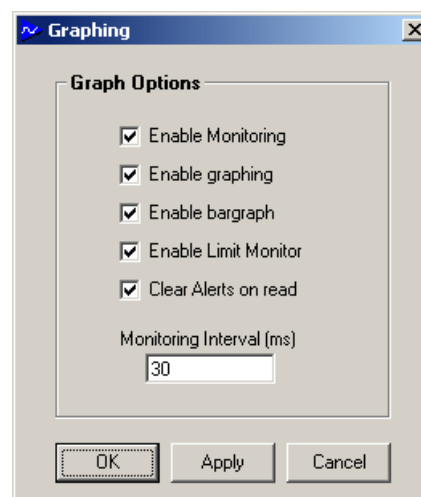

Figure 9. Graphing Options Window
By clicking on the Graph Options button on the Visual Display screen, the window displayed in Figure 9 opens. This window gives the user a range of options to control the Visual Display window and the AD7877.
**Enable Monitoring:** If Monitoring is enabled, then the user can choose the interval at which the measurement channels are monitored. In Figure 9, the monitoring interval is set to 30 ms. Every channel is monitored, with the monitoring cycle beginning every 30 ms. The user can change this to any value, with the minimum value being 5 ms. This is the default value. If monitoring is disabled, then the evaluation software stops reading data from the AD7877.